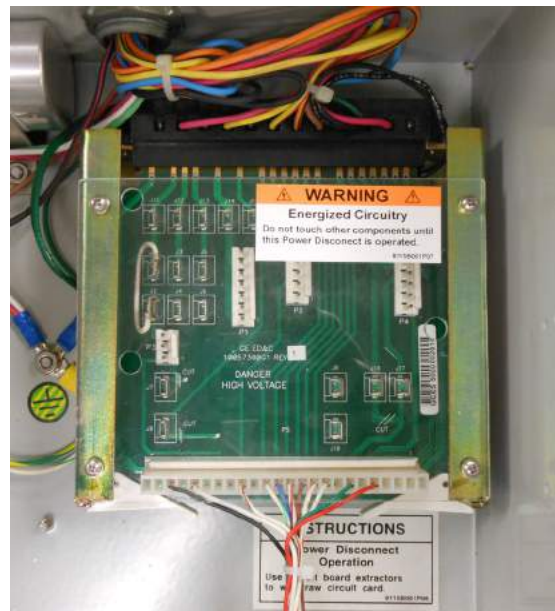

Figure 40. General Electric circuit board with pin connector
- Install the wiring harness pin connector into the terminal plug on the circuit board removed in **Step 2**. See **Figure 40**.
- Reinstall the circuit board into the back panel of the enclosure by lining up the circuit board and pressing up firmly. Refer to **Figure 40**.
17. Review the General Electric nameplate to determine correct overall Potential Transformer (PT) ratio entered at FC 44 on control.